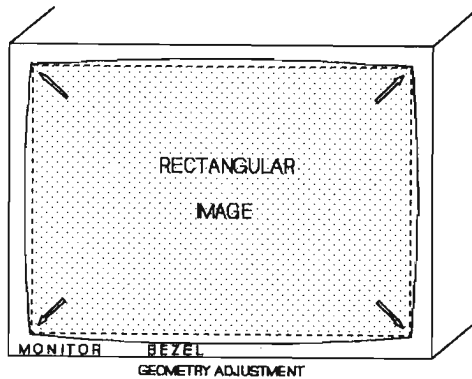

Figure 1
- (1) Apply a monitor circle with standard line rate video to the monitor.
- (2) Adjust the brightness potmeter (WM:R2) such that the video lines become visible.
- (3) Adjust the image width (R8) such that the displayed rectangular image formed by the video lines just fits in the monitor bezel. (See figure 1) This means that all of the video information is displayed.
- (4) Adjust the image height (R6) such that the raster just fits in the monitor bezel.
- (5) Adjust the linearity with R4 (vertical) and L4 (horizontal) to correct distortions of the circle.
- (6) Adjust the image to the centre of the bezel with horizontal-shift (R9) and with vertical shift (R5)